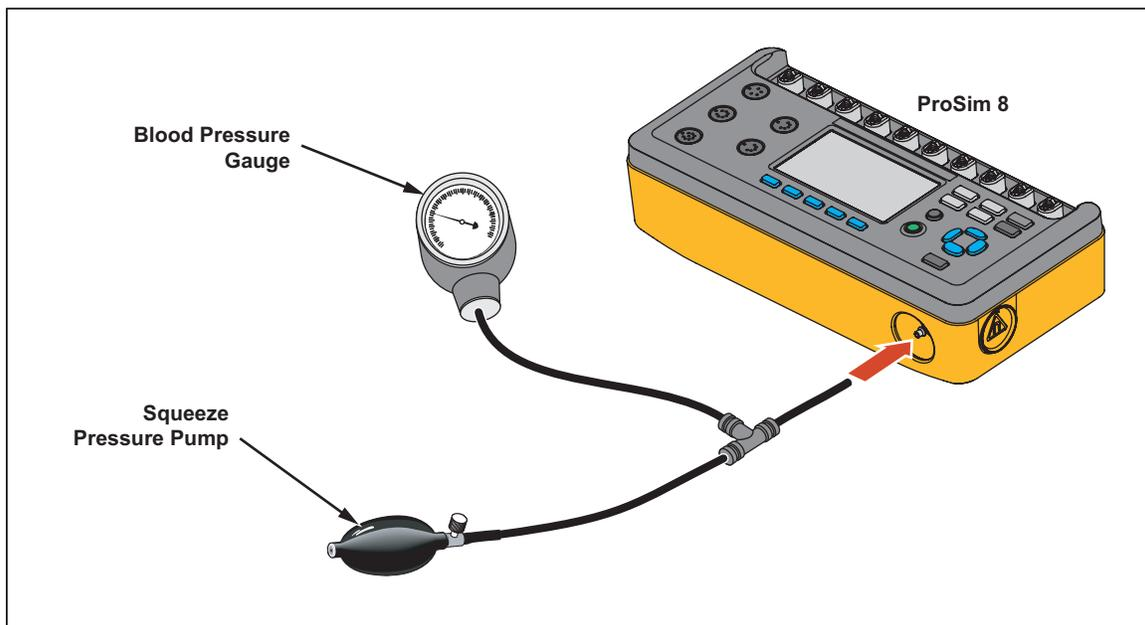

Figure 44. Manometer Connections
1. Connect the pressure port to a pneumatic system as shown in Figure 44.